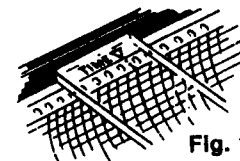

Fig. 10
7. Mark time of start on chart paper. See fig. 10.